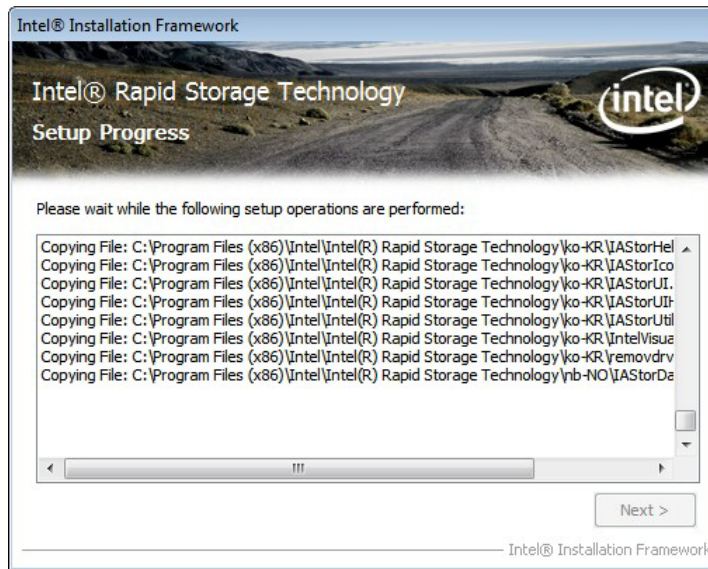

Figure 6-26: SATA RAID Driver Setup Operations
Step 11: **Setup Operations** are performed as shown in **Figure 6-26**.